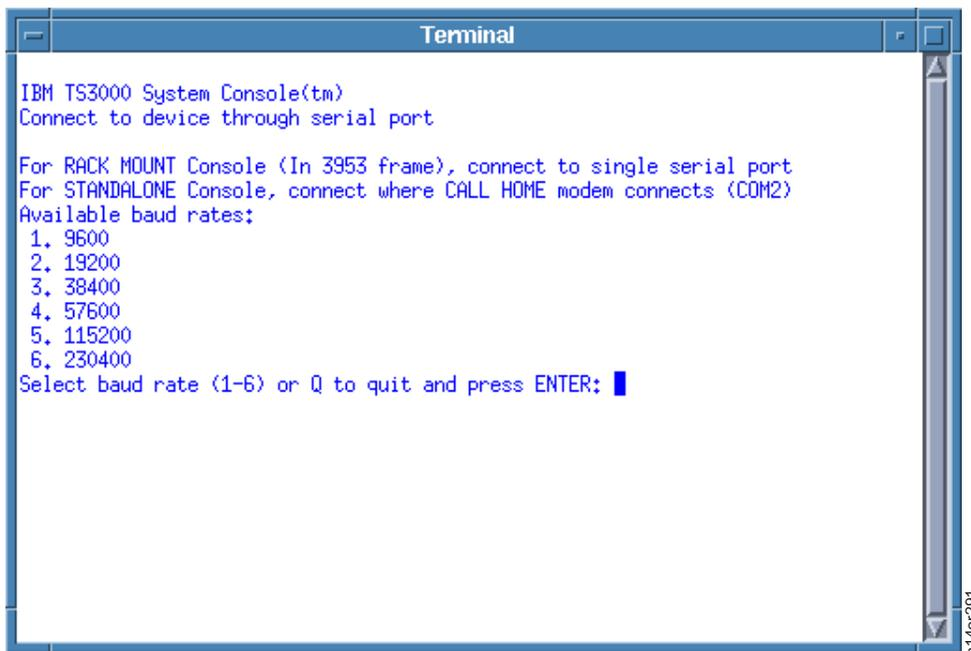

Figure 123. Baud Rate Screen - From TSSC
2. Select **Serial Port**. You see Figure 123. Type the number of the port speed (baud rate) for the device to which you will be connecting. The message 'Connected' appears. Press **Enter**.